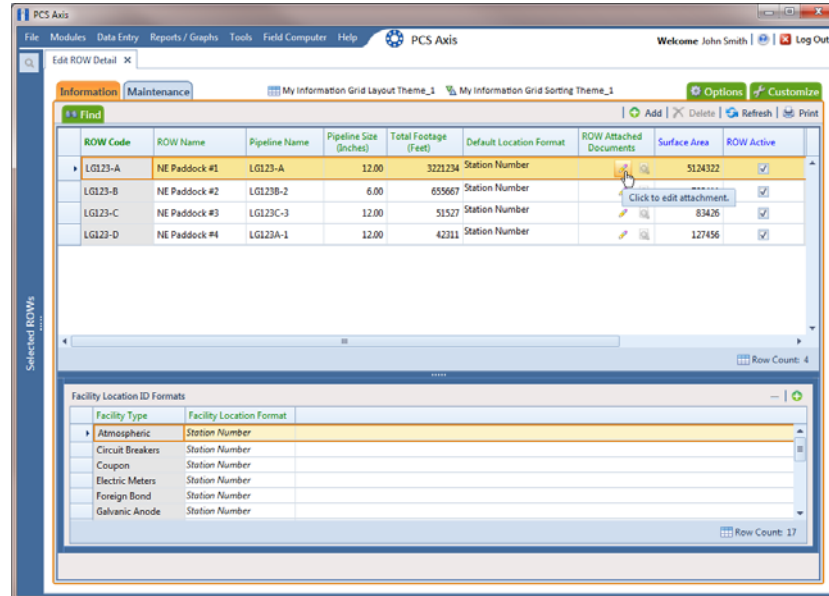

Figure 3-14. Edit ROW Detail
- 2 Click **Data Entry > Edit ROW Detail** to open the *Edit ROW Detail* window (Figure 3-14).
- 5 Click the edit icon  in the **ROW Attached Document** field for the pipeline record you plan to attach a document (Figure 3-14).